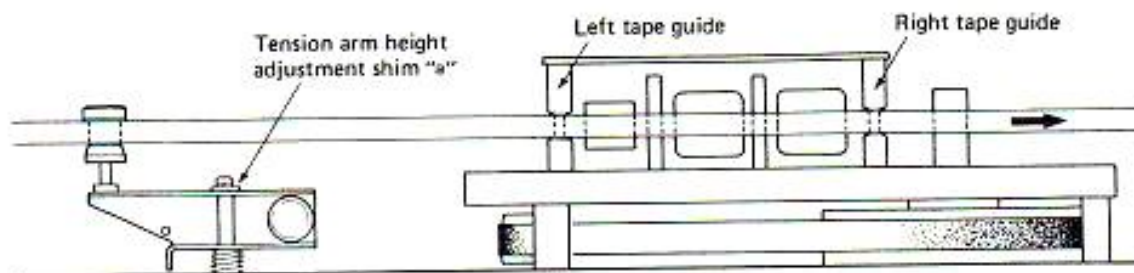

Fig. 2-9. Tape Path Adjustment
2. If curling at the left tape guide is evident, adjust the height of the guide by inserting a shim of appropriate thickness ($\phi 5 \times \phi 8 \times 0.5$ or 0.25) into "a" of the left tension arm. The same procedures should be followed for the right tension arm height adjustment. See Fig. 2-9.